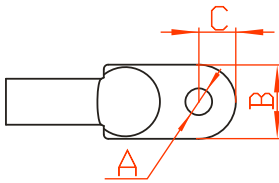

Figure3-29 Terminal size requirements
- When the AC output uses copper wire, it is recommended to use DT/OT terminals (as shown in Figure3-29). The terminal specifications and requirements is: $16\text{mm} \leq A \leq 22\text{mm}$, $B \leq 52\text{mm}$, $C \leq 26\text{mm}$.